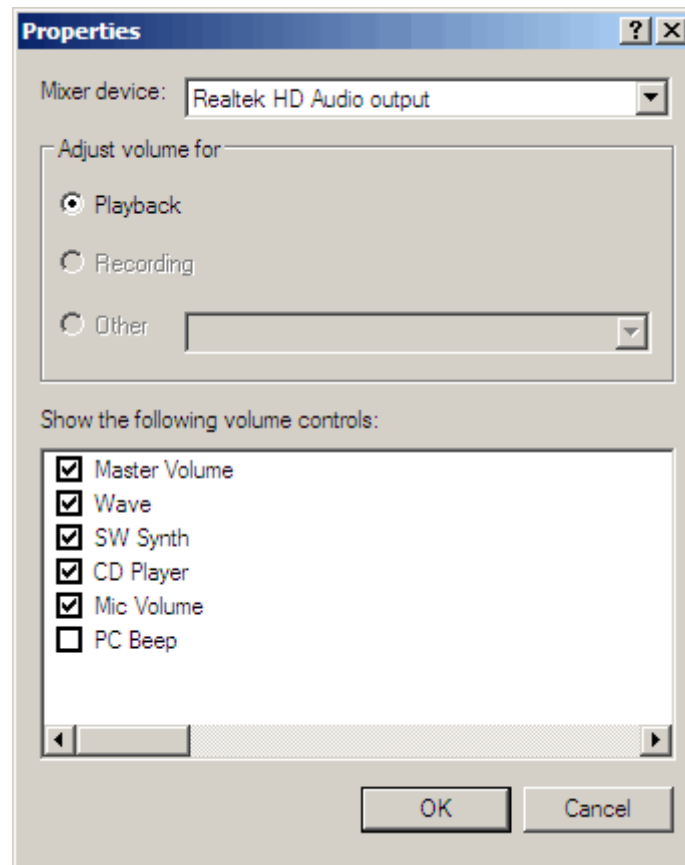

Figure 2.7 Dialog for choosing soundcard and input/output channels
- 2) Click on menu '**Options->Property**' and select soundcard channel that will be used for output (playback), as shown in Fig. 2.7.